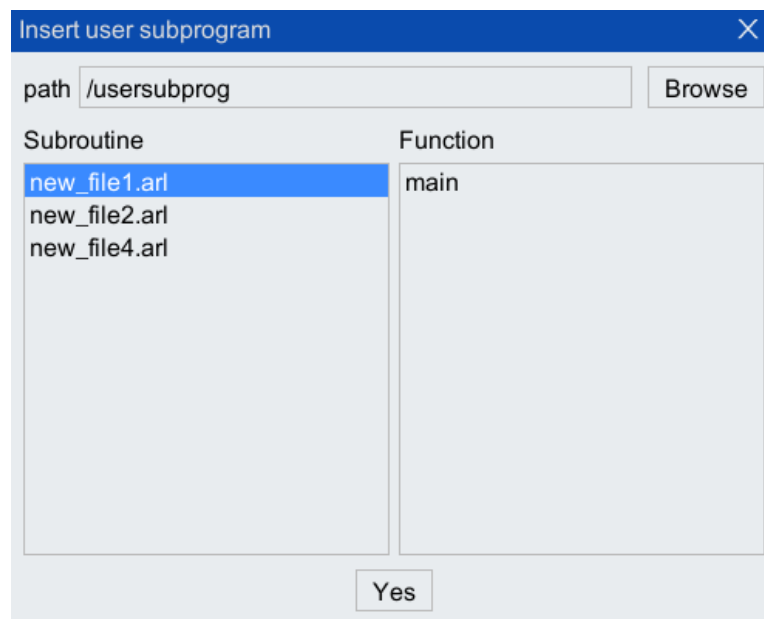
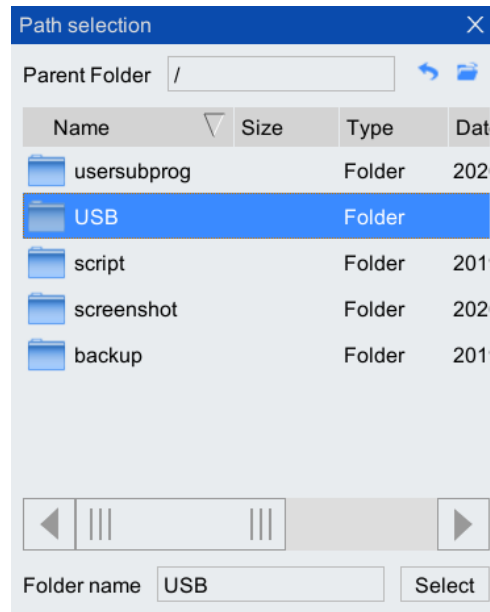

Figure 5-58 "Insert User Subprogram" interface
Figure 5-59 "Path selection" list box
Step2. Click "Insert Instruction> User Subprog" option in the toolbar of the program editor to pop up "Insert User Subprogram" interface, as shown in Figure 5-58. Click <Browse> button, find and highlight the folder where the subprogram to be inserted is located in the pop-up "Path Selection" dialog box, and click <Select> button, as shown in Figure 5-59.